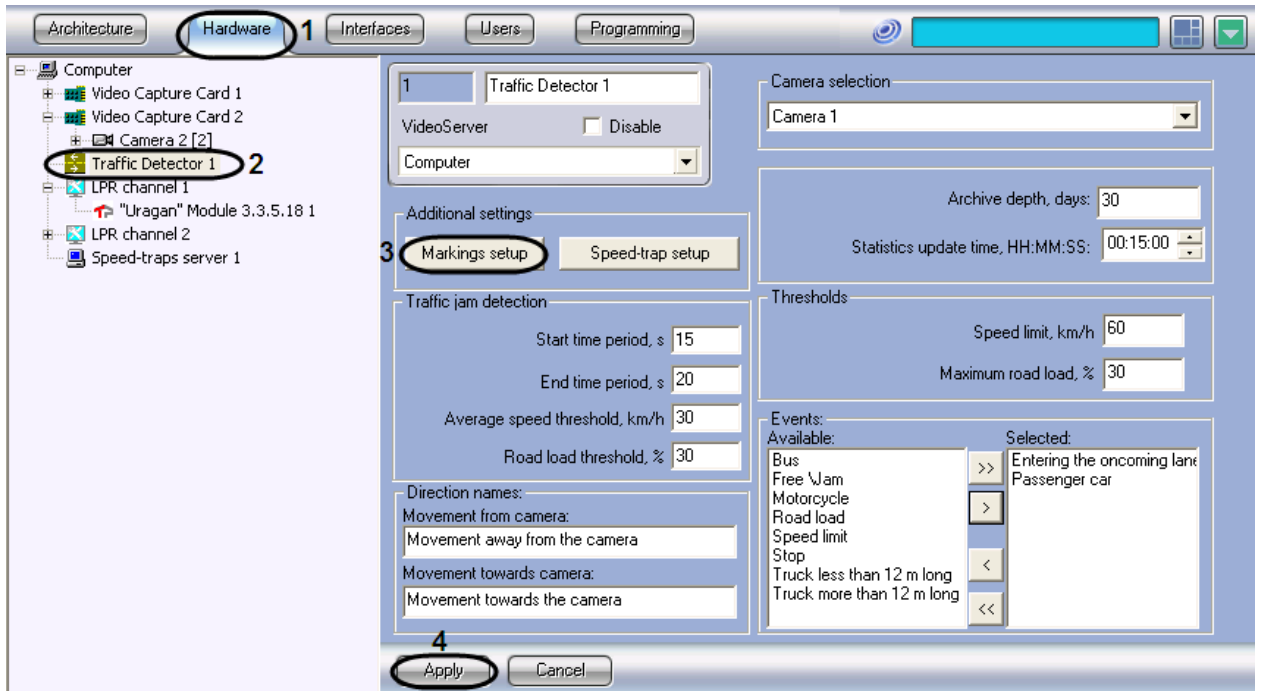

Fig. 7.4-12 Exporting the markings to the file
2. In the object tree on the left side of the Hardware tab, select the Traffic Detector object representing the Traffic Detector module to be set up. The settings panel of the selected object will open on the right side of the window (see Fig. 7.4-12).
5. Click Apply (see Fig. 7.4-12).